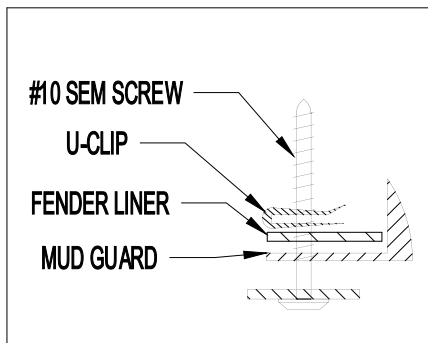

Figure 2
4. Using the mud guard as a template, mark and drill an 1/8" hole and install #10 SEM screw at location D (Passenger side only), thru the mud guard, fender liner and into a u-clip on the back side of the liner. The u-clip is used as a nut, DO NOT clip over the liner (see figure 2).